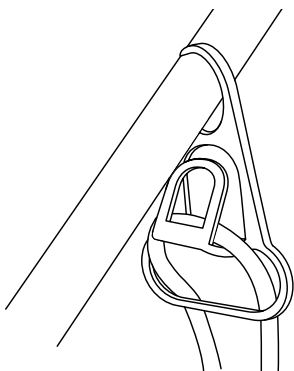

Figure 12
2. Push the loop of extension cord through the slot from the opposite side of the restraint hook. Position the loop over the hook and pull the cable back through the slot (Fig. 12).